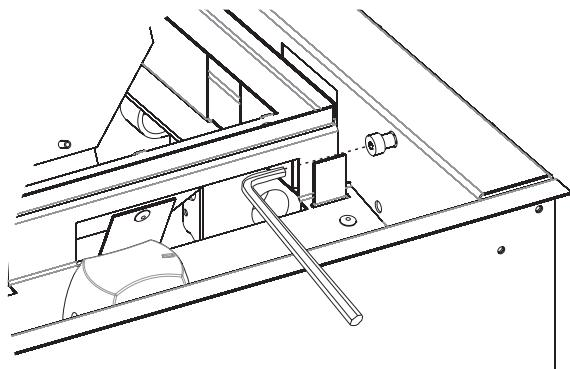

**Figure 23**
6. The photograph below shows a typical firepit installation for reference only. **See Figure 23.**